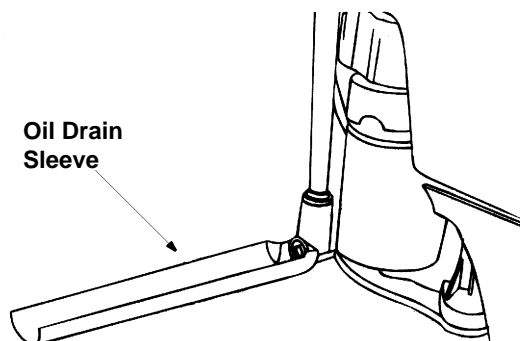

Figure 19
- To drain the oil, snap small end of the oil drain sleeve onto oil sump. See Figure 19.